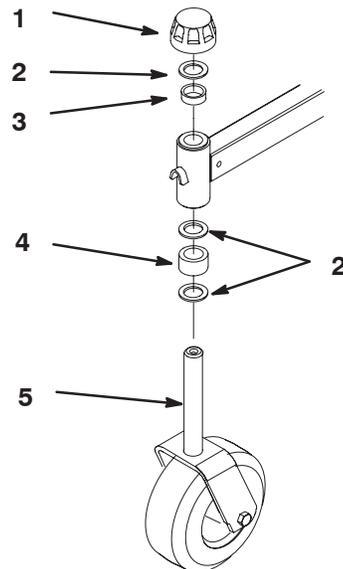

Figure 76
2. Remove the cap, thrust washer and 1/2 inch spacer from the top of the castor wheel fork (Fig. 76).
6. Inspect the castor wheel fork for wear and replace if necessary (Fig. 76).
7. Slide the castor wheel fork through the bushings in the castor hub. Replace the 1/2 inch spacer and thrust washer onto the fork and secure with the cap (Fig 76).